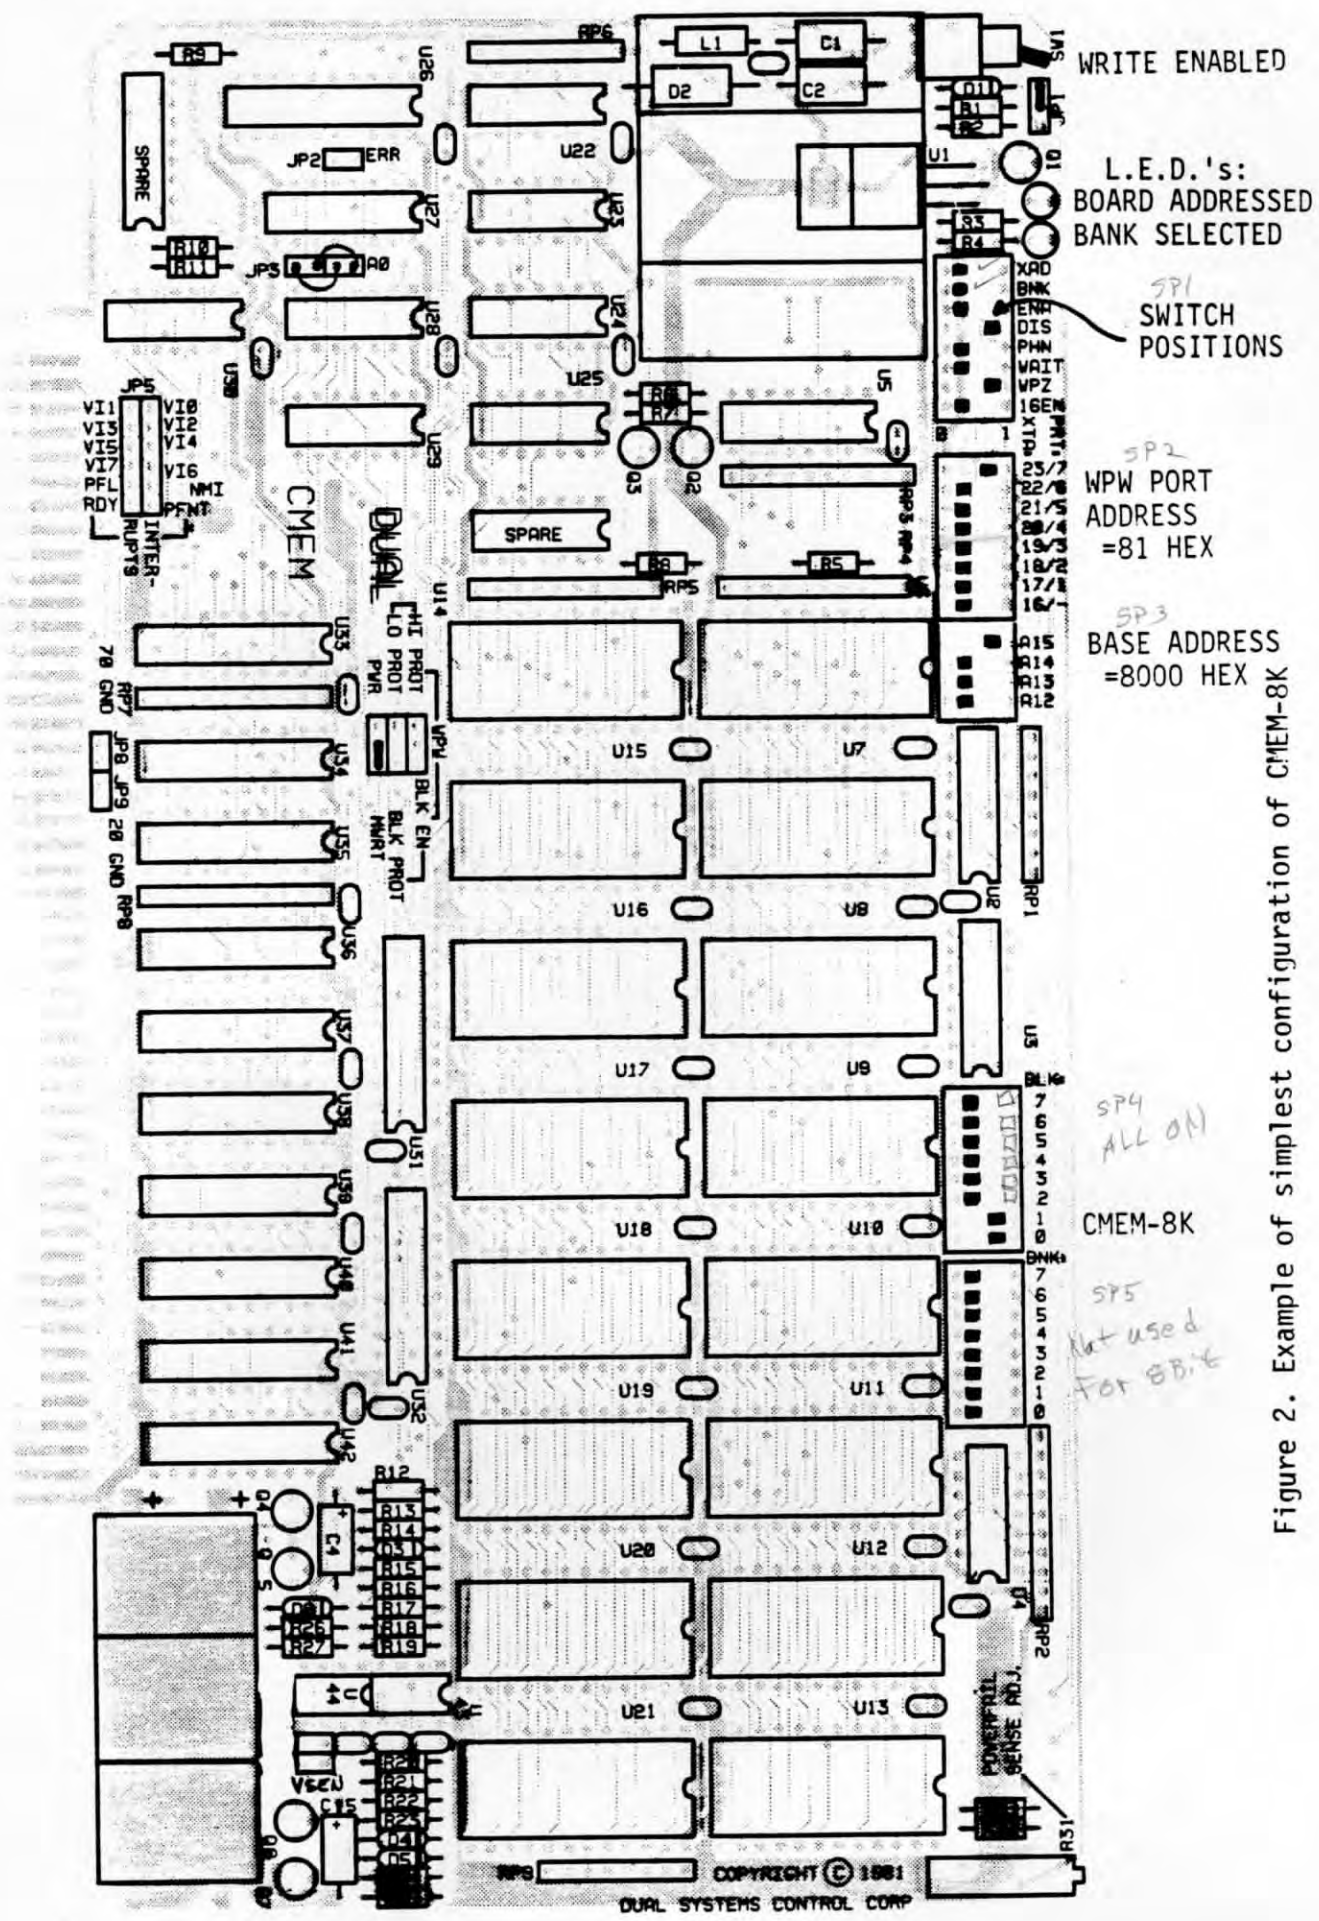

Figure 2. Example of simplest configuration of CMEM-8K
1. A "NO OPTIONS" mode, in which the CMEM is used in an 8 BIT computer, without the need for multiple memory banks or extended addressing, and without the need for the software-programmable write-protect window. THIS SIMPLE CONFIGURATION IS ALL THAT IS REQUIRED IN MOST APPLICATIONS. SEE FIGURE 2.
An example of the switch settings for a system that is set up for simple 16 bit addressing is shown in figure 2. In this case, the user is configuring a CMEM-8K as follows: